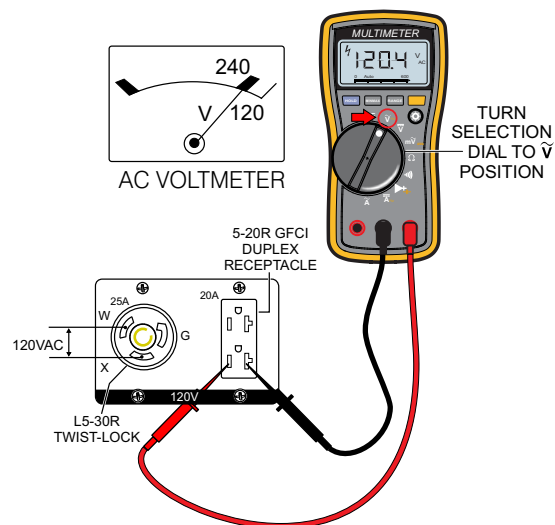

Figure 26. 120V Twist-Lock/GFCI Receptacles
10. Read voltmeter on front panel of generator (Figure 26) and verify that 120 VAC is displayed. Using an external voltmeter as shown in Figure 26, verify that 120 VAC is present at the 120V twist-lock and GFCI duplex receptacles.